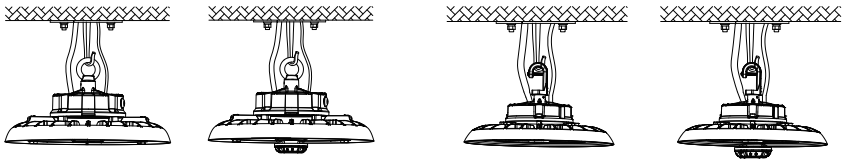

Figure2
- 2.Hang the fixture on the ceiling hook or chain(Figure2)